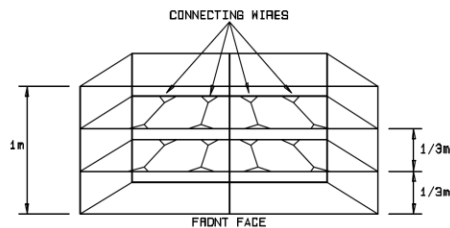
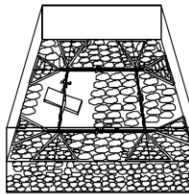
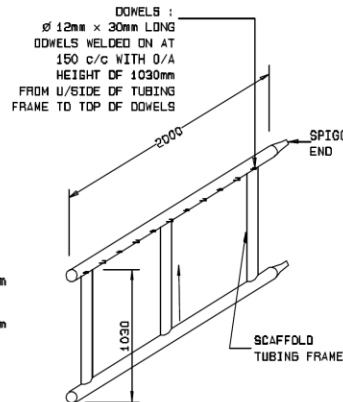

FIGURE 8
FIGURE 10
FIGURE 11
4. TO AVOID BULGING ON THE VISIBLE SIDE OF THE STRUCTURE, FILL ALL THE OUTSIDE BOXES IN STAGES (1.0m HIGH BOXES IN THREE LEVELS AND 0.5m HIGH BOXES IN TWO LEVELS) WITH HORIZONTAL BRACING IN BETWEEN (FIGURE 8). FIX THE BRACING WIRES IN THE GABION BOX DIRECTLY ABOVE THE STONE LEVEL MAKING SURE THE WIRE PASSES ROUND AT LEAST TWO MESH WIDTHS AND "SPANISH" HINDLASS THE BRACING WIRES TO KEEP THE FACE EVEN AND FREE FROM BULGING (FIGURE 8). BRACING IN BOTH DIRECTIONS SHOULD BE USED IN GABIONS AT CORNERS OF STRUCTURES (FIGURE 10). AS AN ADDITIONAL MEASURE, SCAFFOLD PLANKING AS SHUTTERING ALONG THE FRONT FACE OR A PRE-FABRICATED SCAFFOLD TUBING FRAME SYSTEM CAN BE USED (FIGURE 11).